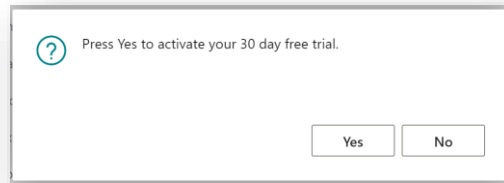

Figure 3-11
2. You are then prompted to choose **Yes** to activate your free trial. Choose **Yes** (Figure 3-11).